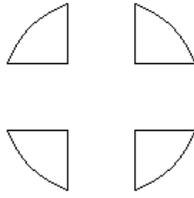

Fig. 1.7.20
**Subtract:** Retain the none-overlapping part of main object, see Fig.1.7.20.